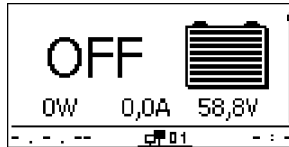

Fig. 7: Display after switching on the external battery fuse
6. Press **ESC** to acknowledge the event message. The standard status display appears (Fig. 7).